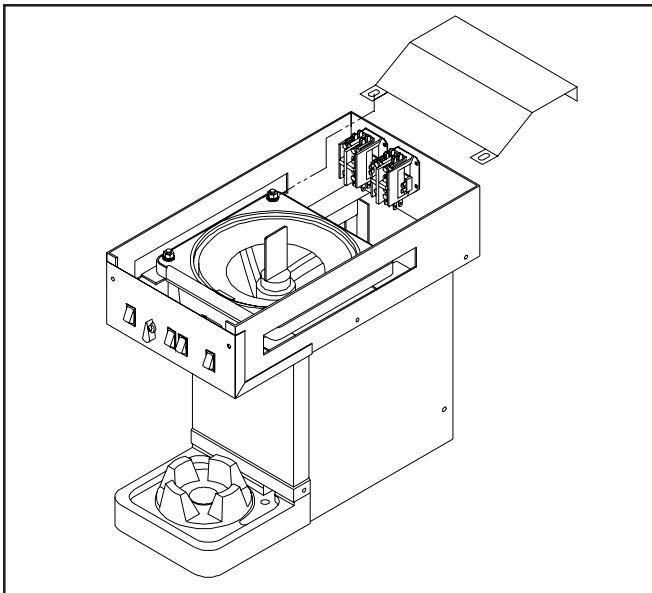

Fig. 11 - Contactors
2. Remove the two hex head nuts and star washers, then lift out contactor (Fig. 11).